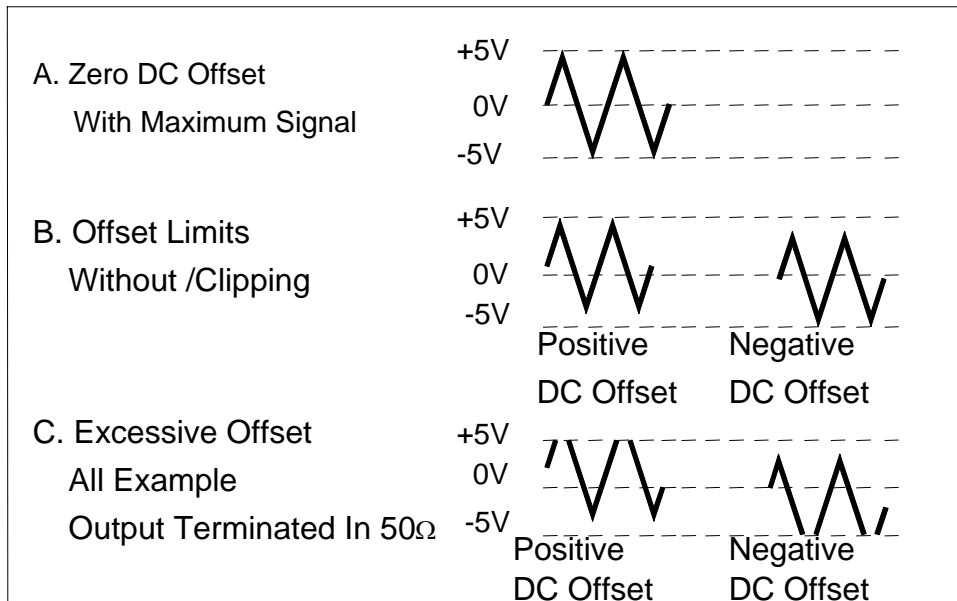

FIG 4. USE OF DC OFFSET CONTROL
- A. The DC offset control can provide over ± 10 volts open-circuited, or ± 5 volts into 50Ω load. Remember that the combined signal swing plus DC offset is also limited to ± 10 V open-circuited, or ± 5 V into 50Ω . Clipping occurs slightly next page these levels. FIG 4. illustrates the various operating conditions encountered when using DC offset. If the desired output signal is large or if a large DC offset is used, an oscilloscope should be used to make sure that the desired combination is obtained without clipping. Keeping the Amplitude control in the lower half of its adjustment range reduces the probability of clipping.